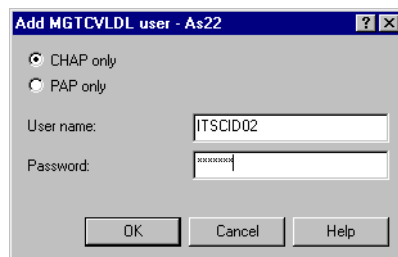

Figure 194. Entering a user and password
- b. In the New Validation List dialog box, click **Add** to add a new remote user as shown in Figure 194.